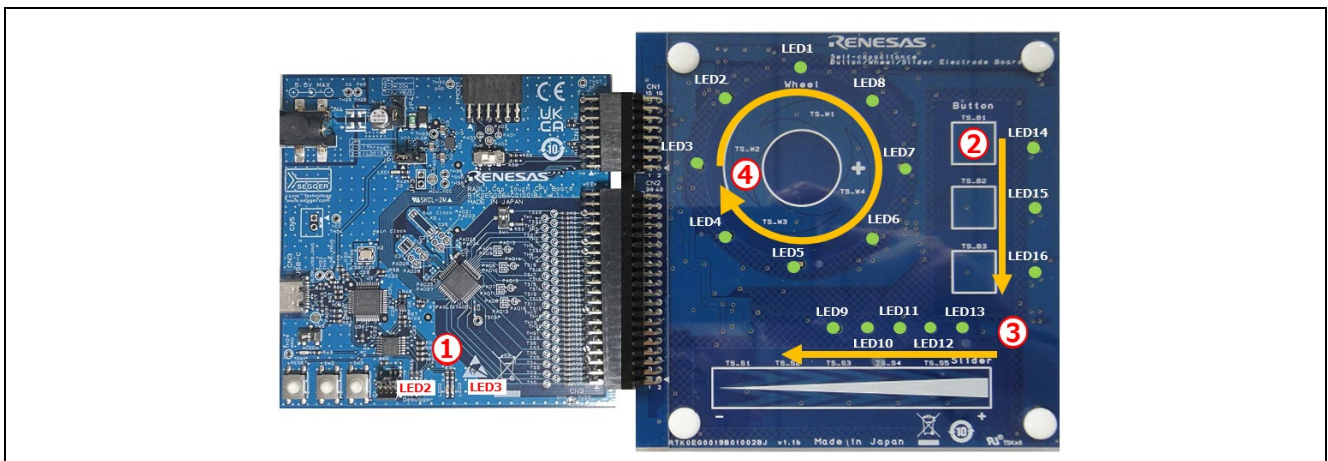

Figure 1-1 LED Testing During Software Startup
1. When the power is turned on and started, the LED test is performed. First, turn on LEDs 2 and 3 on the CPU board. After that, the LEDs on the electrode board are turned on and off in the order of buttons, slider, and wheel. (See Figure 1-1.)